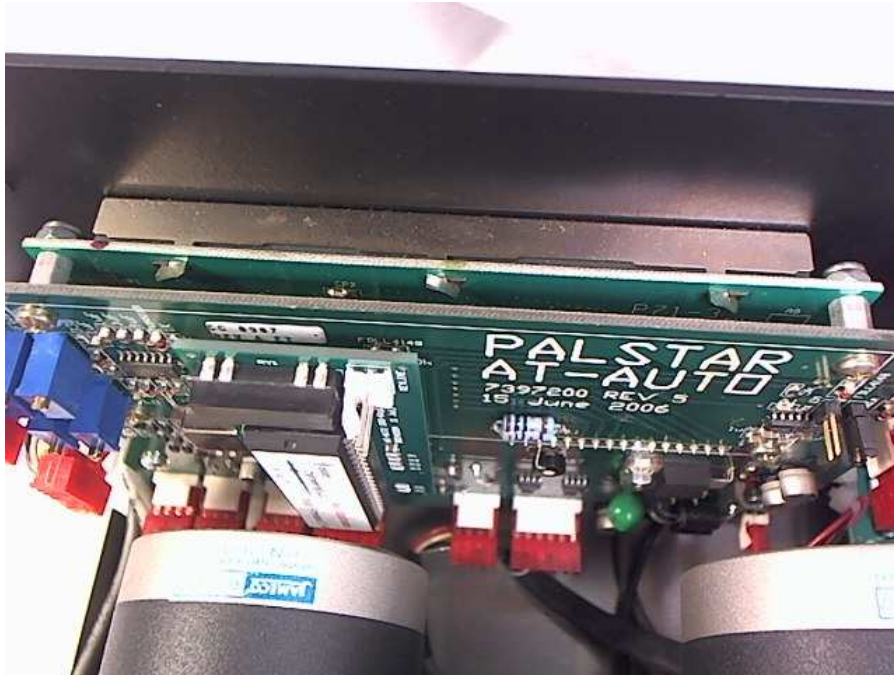

Figure 1.8: AT-AUTO_(tm) Daughterboard Orientation
4. Orient the Daughterboard over the vacated microprocessor socket on the AT-AUTO_(tm) control board as shown in Figures 1.8 and 1.9 and very carefully align the Daughterboard pins with the control board socket and insert.